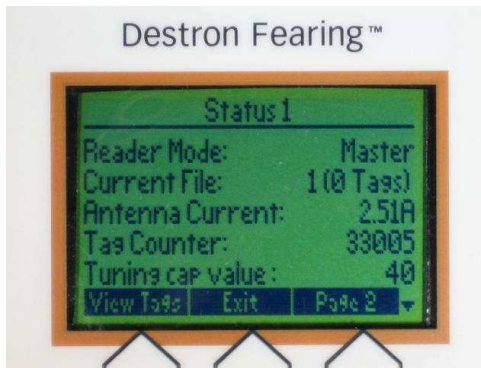

FIG. 16: Status 1 Screen
2. The Status 1 Screen lists current status information on the Reader. See Fig. 16.